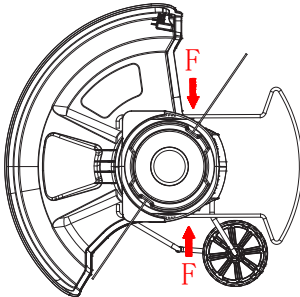

Fig. 11
1. Place the wire guard and tool horizontally (Fig.11)
2. Push the both sides of wire guard into the slot of left/right housing (Fig.11, Fig.12)